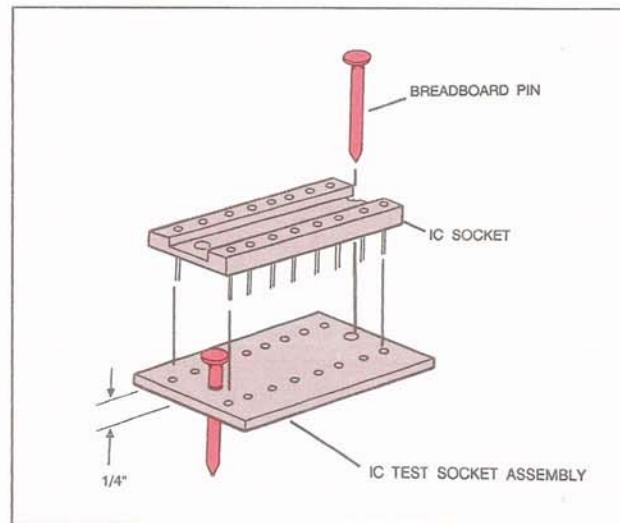

FIG. 16
13. Mount the IC Test Socket Assembly on the breadboard as depicted in Fig. 16. NOTE: Do not install the IC in the test socket assembly at this time.